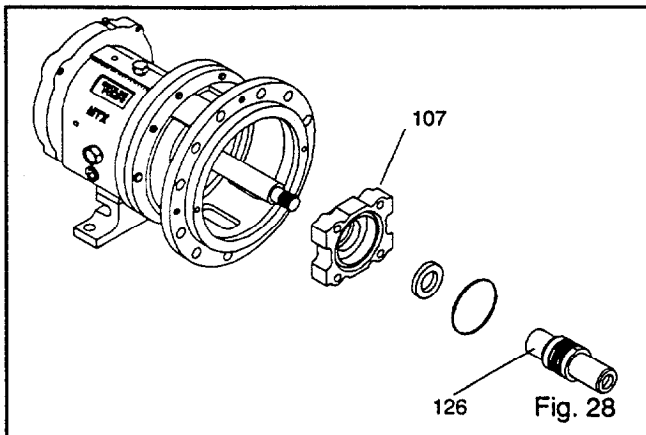

Fig. 28
5. Remove gland (107) with stationary seat and O-ring (360Q) (Fig. 28).